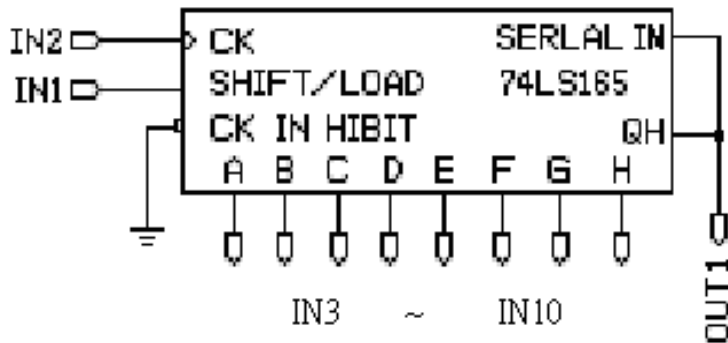

Figure 8-9
1. 8 bits PISO shift Register circuit as figure 8-9.